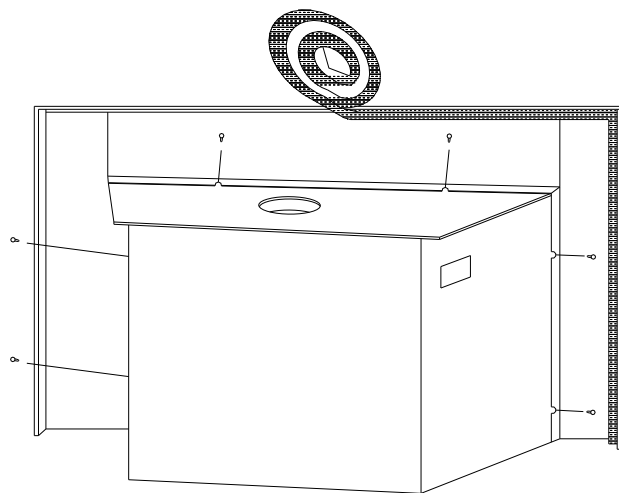

FIGURE 3
- (A) Mount the top trim panel.
- (B) Mount the side trim panels with the mounting screws provided. (FIGURE 3)
- (C) Attach the adhesive-backed insulation to the back of the trim panels. To help camouflage the insulation, place it approximately one inch from the edge of the panels. (FIGURE 3)